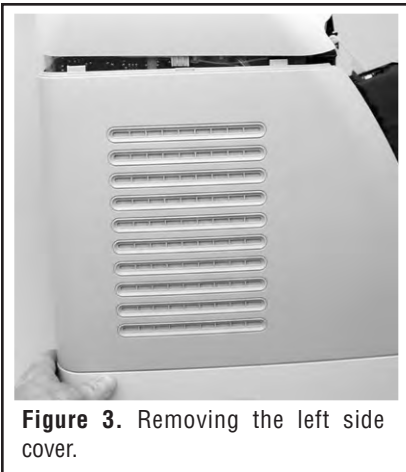

Figure 3. Removing the left side cover.
3. Pull the bottom of the left side cover away, then lower the cover from the tabs along the top edge as shown in Figure 3.